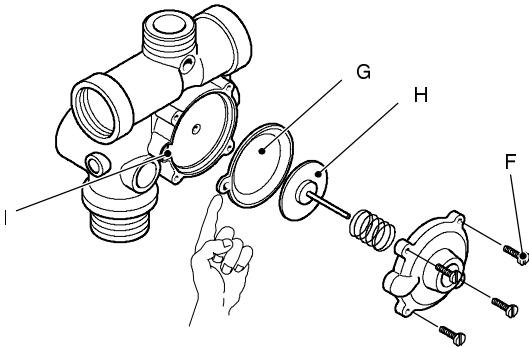

fig. 66
- 3 Unscrew the four screws *F*, open the hydraulic operator and remove the membrane *G* (fig. 66).
**Assembling the part, ensure to place the concave side of the membrane towards the actuator plate *H* and the reference hole indicated in the seat *I* (fig. 66).**